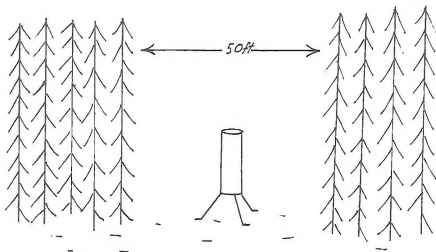

Figure 3. The opening in the trees should be at least 50 feet wide.
3. When a gage must be placed in an area of tall trees (> 50 feet), a clearing should be used that has a minimum diameter of 50 feet. (Figure 3)